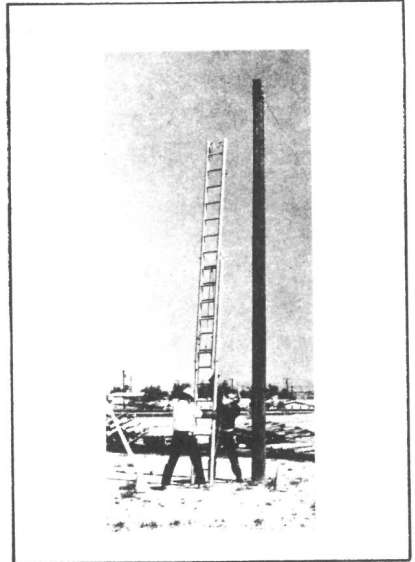

FIGURE 33.
20.01 One craftsman shall hold the side rails of the lower section on the front side of the ladder during the raising and lowering of the upper section by another craftsman. Take care to prevent the ladder guide irons from striking and injuring the hands of the craftsman holding the side rails. The ladder is raised by the second craftsman as described in paragraph 18.04 and shown in Figure 33.